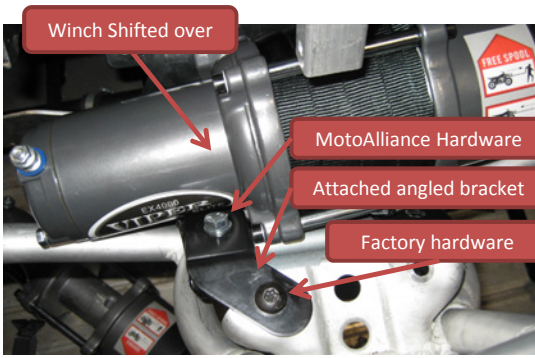

Figure 21
- Shift the winch to one side as seen in Figure 21. Attach the angled bracket to the bumper using the factory hardware. Using the MotoAlliance hardware, attach the bracket to the roller fairlead.